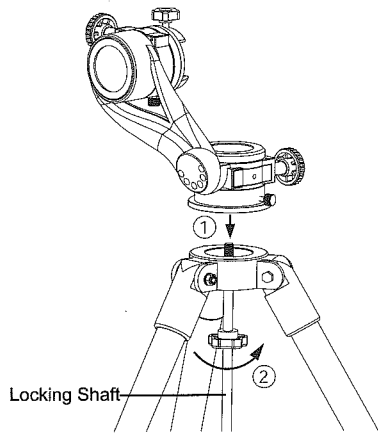

Fig. 1.2b
4. Place the AZ5 mount on the top of the tripod, align the underneath thread hole with the locking shaft. While supporting the mount with one hand, gently push the locking shaft up against the underside of the mount and turn the shaft counter-clockwise to secure the mount to the tripod top firmly (Fig. 1.2b).